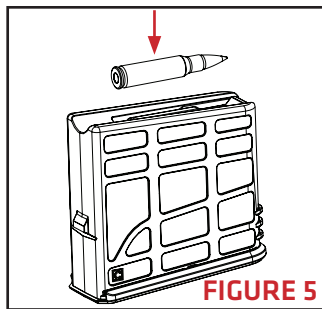

FIGURE 5
2. Load no more than 10 cartridges into the magazine by pushing the round straight down against the magazine follower (**FIGURE 5**).